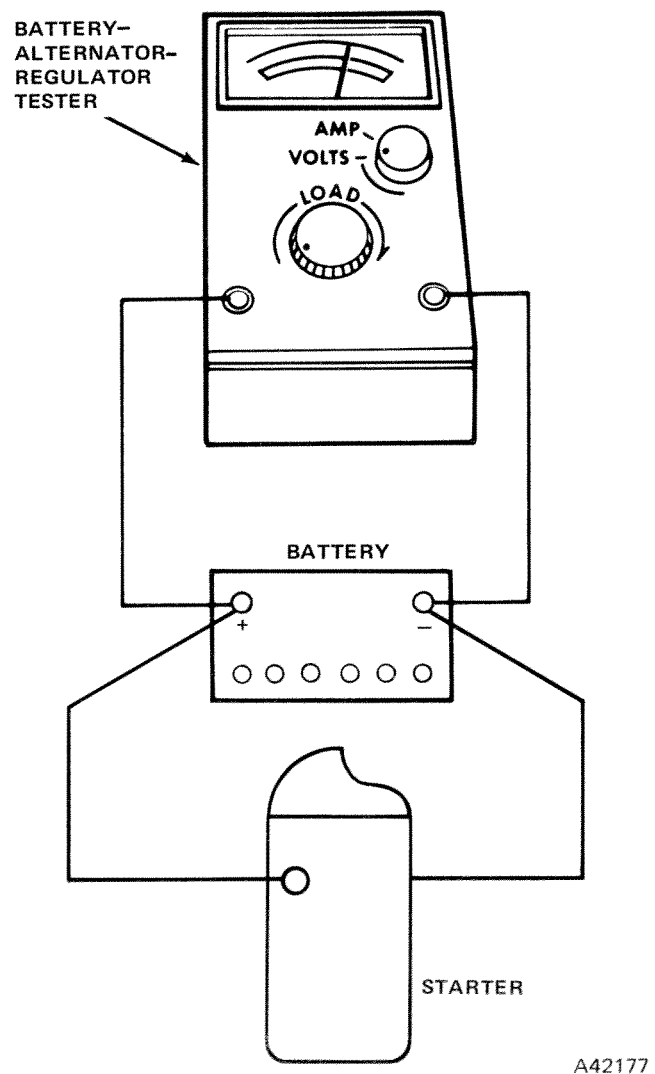

Fig. 3-41 Starter Motor No-Load Test
(1) Operate starter with test equipment connected as shown in figure 3-41. Note voltage reading.
(2) Determine exact starter rpm using a mechanical tachometer (not shown).